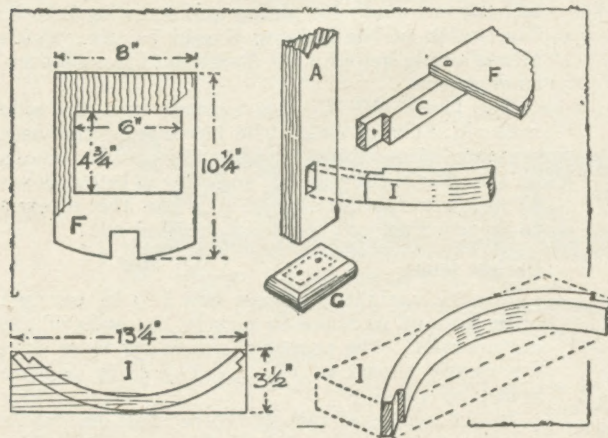

Fig. 3—Details of construction and parts
The four shaped rails forming the front of the stand are made from flat pieces, as the diagrams show at the bottom of Fig. 3.
The board to take the metal drip pan (No. 6144) is shown at F in Fig. 3. Mark this out carefully and cut in a 1 3/8 inch square recess in the front to take the leg.
The two feet (G) are simple pieces of wood cut oblong and with the edges rounded. Two screws each fix these to the rails A. The diagram at the top right of Fig. 3 will be useful in showing the junctions of rails C and I with the upright rail A.